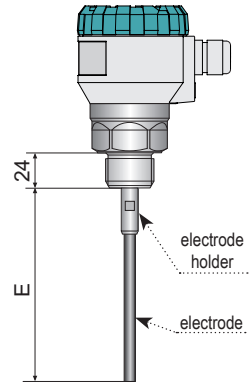
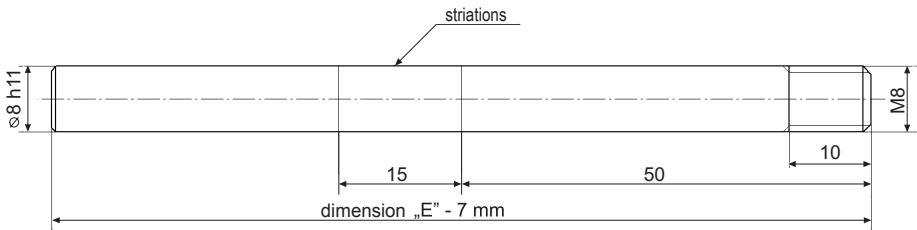

Fig. 23: Drawing of the level meter with size "E"
Fig. 24: The drawing of the measuring electrode marked with the threaded connection and grooving
1. Create your own electrode as shown on Fig. 24. The length of the electrode must be about 7 mm shorter than the dimension "E" in figure 23. The material of the electrode is recommended to be used stainless steel type 1.4571 (AISI 316 Ti) or similar depending on the application.
3. Apply the glue for securing of threaded fasteners (glue quantity specified by the manufacturer) to the thread of the new electrode (made acc. Fig. 24.). The used glue must meet the requirements depend on the specific application, for example: withstanding high temperatures, corrosive chemicals, resp. contact with food.